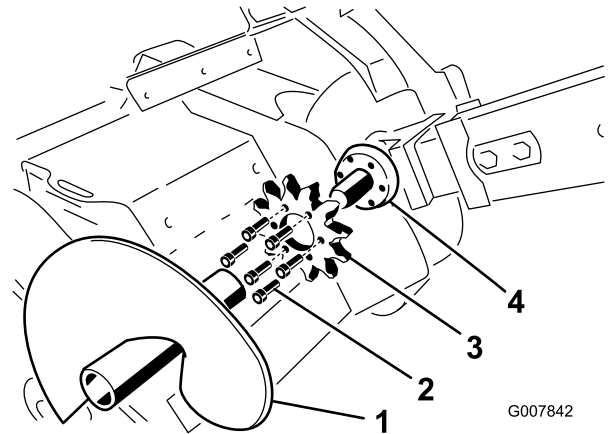

Figure 66
4. Remove the spoils auger (Figure 66).
9. Remove the 6 bolts securing the drive sprocket (Figure 66).
10. Remove and discard the drive sprocket (Figure 66).
11. Clean the sprocket mounting surface on the trencher (Figure 66).
- Slide the new sprocket onto the shaft (Figure 66).
- Thread the 6 bolts into the sprocket finger tight (Figure 66).